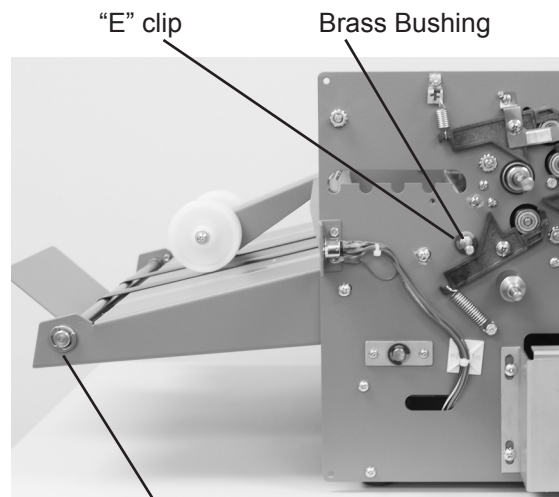

Fig. 21c
5. Remove one "E" clip from the lower stacker (Fig. 21c) shaft and slide the shaft out of the bushings.
10. Remove the "E" clip on the upper conveyor drive shaft (Fig. 21c) on the non-operator side of the
11. Slide the drive shaft toward the non-operator side and remove the brass bushing from non-operator side of the conveyor drive shaft (Fig. 21c).